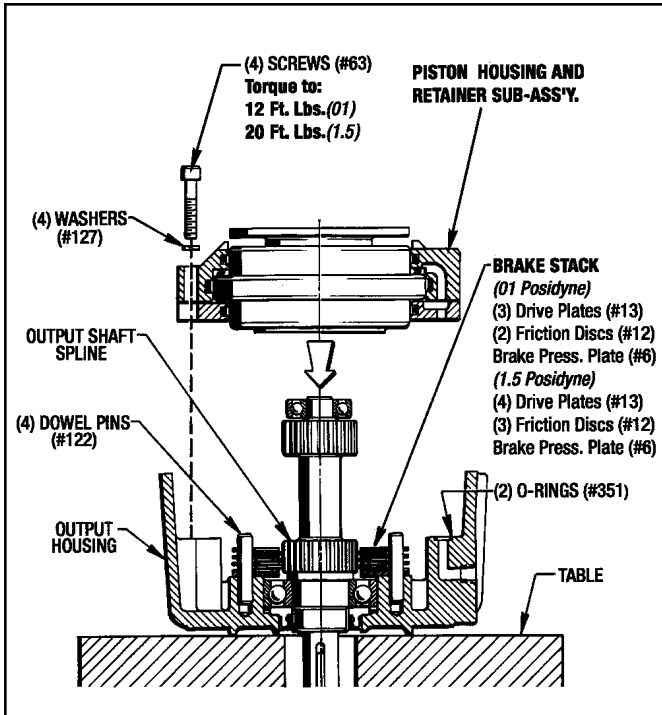

Figure 9.8 - Installing Brake Stack
(See Figures 9.8 and 10.1)
(See Figure 9.8 and 10.1)
- First place the (2) O-Rings (#351) into the (2) counterbores in the Output Housing. (See Figure 9.8 for location of these O-Rings.)
- Attach the Piston Housing Assembly with (4) Screws (#63) and (4) Lockwashers (#127). (See Figure 9.8 for Torque Requirements.)